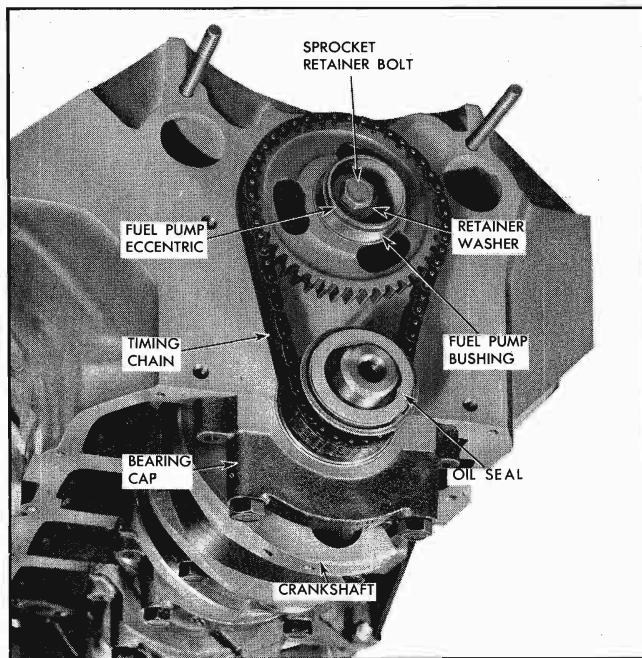

Fig. 6-75 Front View of Engine with Oil Pan and Timing Chain Cover Removed
8. Remove fuel pump eccentric and bushing (Fig. 6-75).
10. Remove sprockets and timing chain (Fig. 6-75).
12. Remove main bearing caps from block (Fig. 6-75).